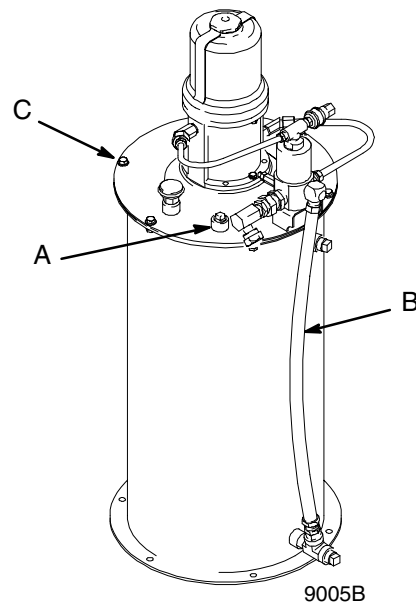

Fig. 1
2. Remove the six screws (C) see fig.1, that hold the pump module and reservoir cover to the reservoir and disconnect the vent hose (B) see fig. 1.
4. Remove the 3/4" plug (A) see fig.1, from the reservoir cover. Slide the metal plate and cable through the hole and hand tighten the level indicator to the fitting.